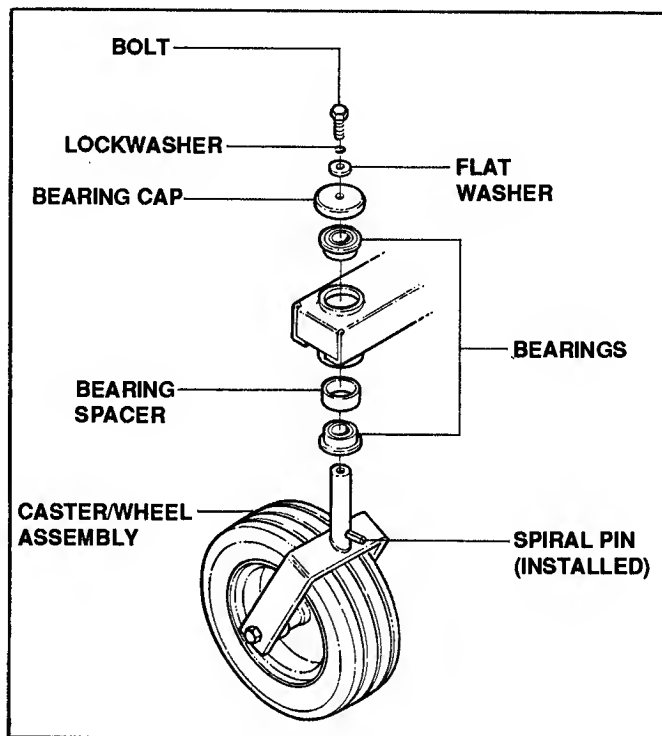

FIGURE 6.3
Removal of the front caster wheel assemblies will make the front bumper/axle more manageable during removal. Refer to Figure 6.3.
E. Inspect bearings, spacer, etc. for wear. Replace parts as required. See Figure 6.3.